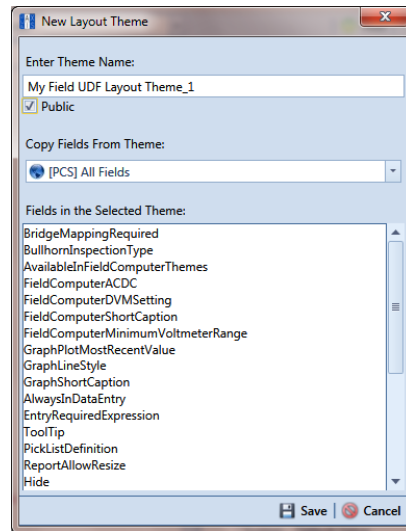

Figure 2-21. New Layout Theme
- 3 Click  **Add** to open the *New Layout Theme* dialog box (Figure 2-21).